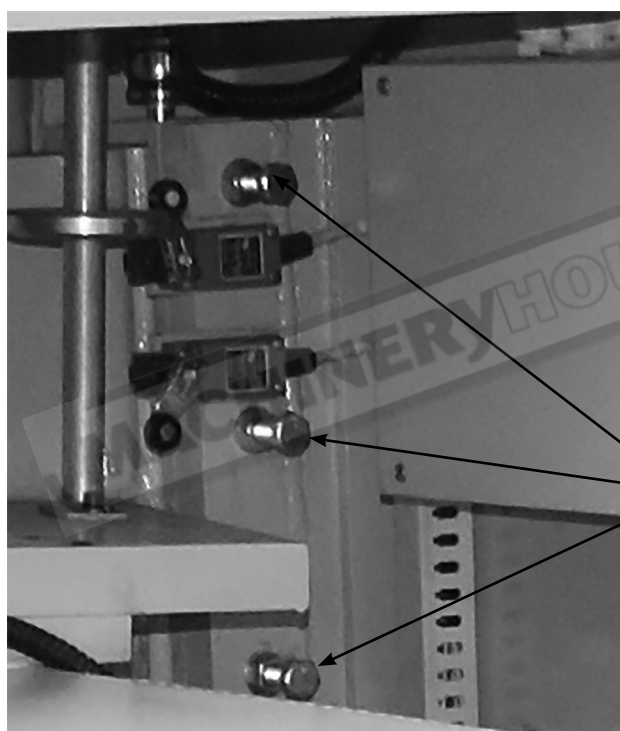

Fig 6.5
- ❑ With the upper beam stopped in the top position, loosen the locknuts (Fig 6.5). Tighten the plate bolt until the plate at the right hand side of the slide is about to lock then back off the bolts about 1/8th of a turn.